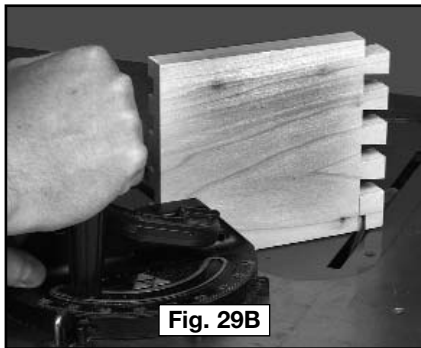

Fig. 29B
- Step 3** - Use a table saw with the miter gauge set to 45° to miter the tails. You will need to make several passes to cut out the material (Fig. 29B).